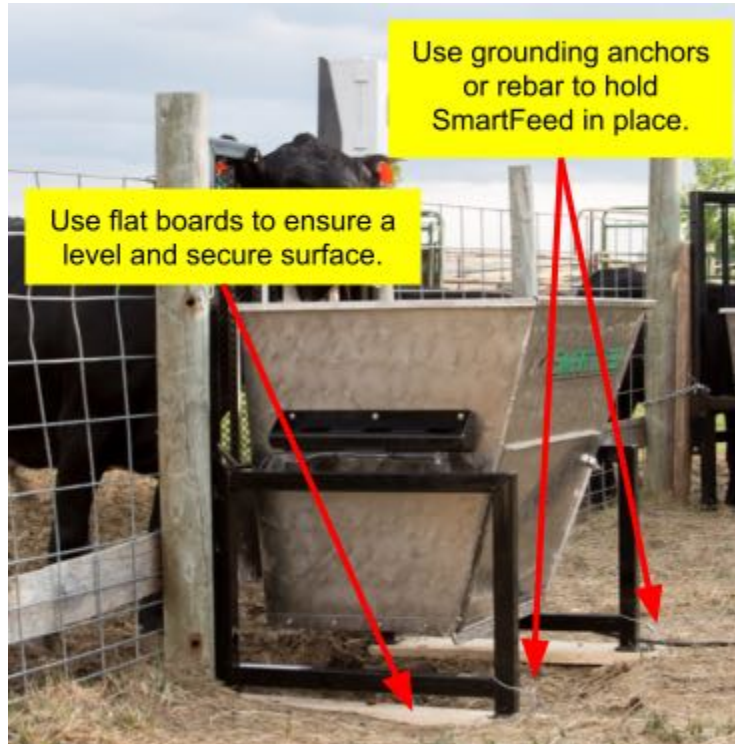

Figure 2) SmartFeed Orientation and Mounting Reference
3. Use rebar or ground anchors to secure the frame to the ground. See Figure 2 for reference.